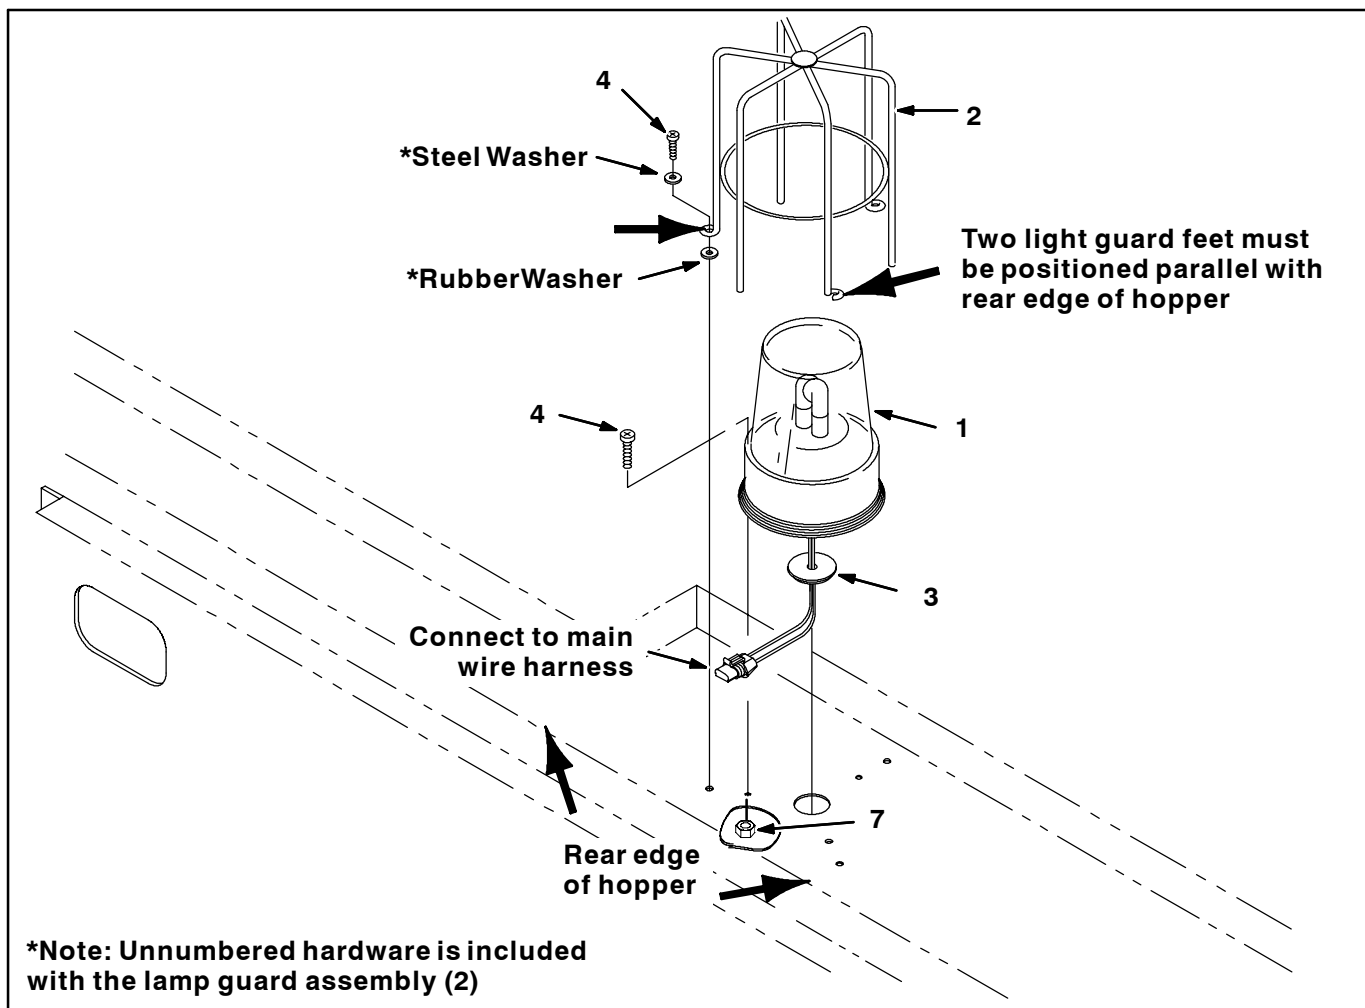

FIG. 2-Hopper Strobe Light Installation
15. Insert a grommet (3) into the existing hole already drilled into the hopper. Refer to Fig. 2.
18. Use three hex screws (4) and three hex nuts (7) to mount the base of the lamp assembly (1) to the hopper. Use holes already drilled into hopper to mount lamp assembly. Refer to Fig. 2.
19. Reinstall the lens onto base of the lamp assembly (1) mounted to the hopper. Refer to Fig. 2.
20. Position the light guard (2) over the lamp assembly (1) so two of the mounting feet are parallel with the rear edge of the hopper. Use light guard as a template to mark and drill three 13/64" holes into the hopper. Refer to Fig. 2.
21. Use three hex screws (4) and three steel washers and three rubber washers (included with the light guard assembly) to mount the light guard (2) to the hopper. Refer to Fig. 2.